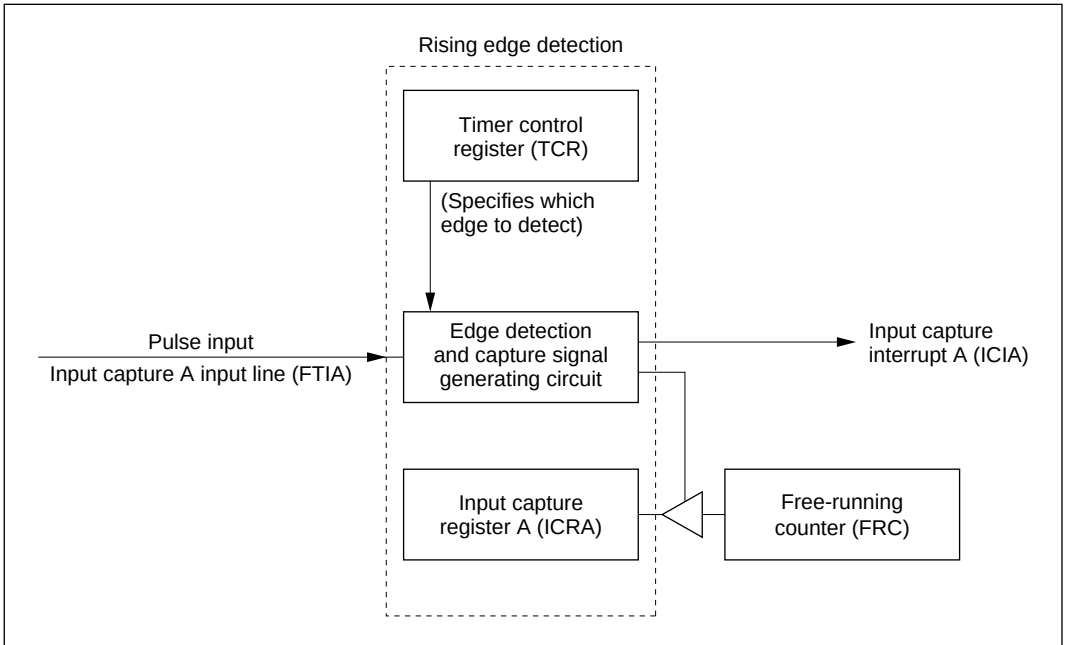

Figure 2 16-Bit Free-Running Timer Block Diagram
1. Figure 2 shows a block diagram of the 16-bit free-running timer used by this sample task. The 16-bit free-running timer has an input-capture function that detects pulse edges and stores the corresponding timer value in an on-chip register.